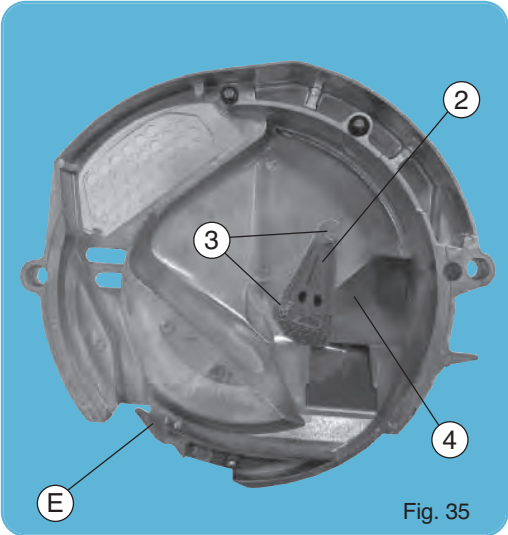

Fig. 35
2. LOW POSITION (fig. 35) FOR SMALL SEEDS, i.e. sunflower, beets, sorghum... This low position should also be used for average sized seeds when the planter has to work for several hundred meters (1 000 or more) on slopes of more than 20 %. For very steep slopes, we have a special plate réf. 6233.2. This special scraper can also be used in the case of easy flowing seeds, even on flat or very bumpy stony ground, to prevent seeds from spilling-over.
2. POZYCJA NISKA (fig. 35) DLA DROBNEGO ZIARNA, takiego jak słonecznik, burak, sorgo...
2. POZIȚIA JOASĂ (fig. 35) PENTRU SEMINȚE MICI, spre ex. floarea-soarelui, sfeclă, sorg.
2. НИСКО ПОЛОЖЕНИЕ (fig. 35) ЗА ДРЕБНИ СЕМЕНА, т.е. слънчоглед, захарно цвекло, sorgo...